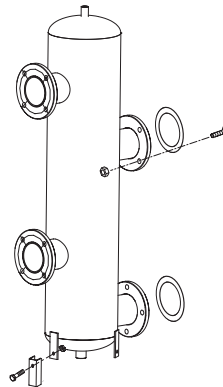

Fig. 9
1.12 HYDRAULISCHE COMPENSATOR COD. 8101553 VOOR "MURELLE EQUIPE 440-550" (apart te vragen) (fig. 9)